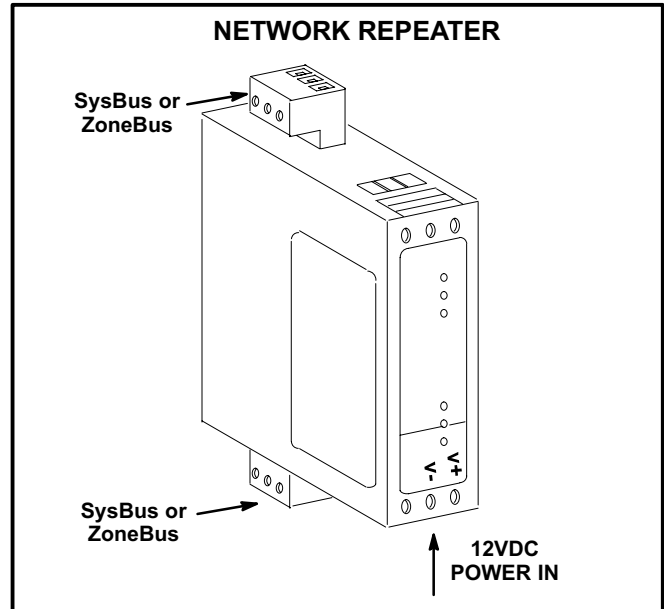

FIGURE 1
- 1- Make communication wiring connections to repeater as shown in figures 1 and 2.
- 2- Plug power source into a 120V outlet and connect to the repeater as shown in figures 1 and 2.